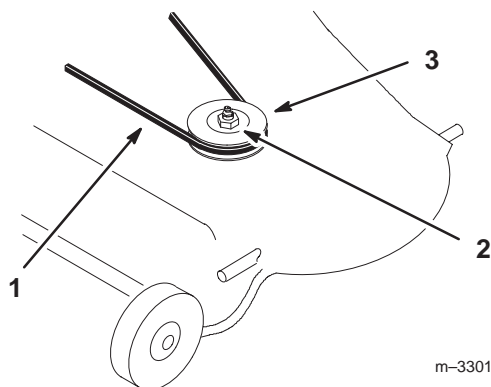

Figure 6
3. Remove the nut and lock washer retaining the pulley (Fig. 6). Remove the single groove pulley.